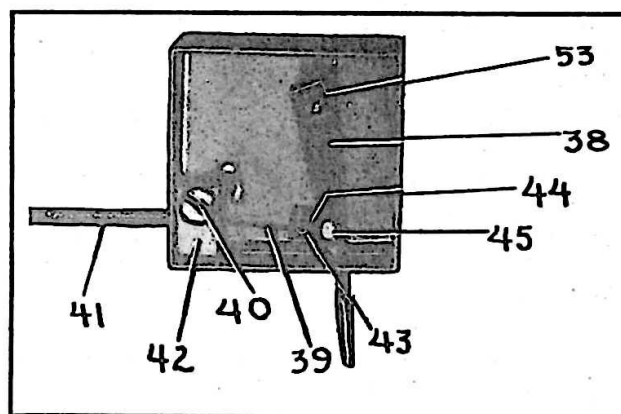

Figure 2-3. Control Box BC-327 (Remote) with Control Shaft MC-166-A Attached
c. Attach the control shaft to Control Box BC-327 as follows: (See fig. 2-3.) Mount Control Box BC-327 on the airplane structure at the position decided upon when determining the routing and length of the control shaft. Drill the mounting holes through the back of the case in such positions that the screw heads will not interfere with the operation of the lever or associated control shaft.
Remove the protective sleeve from the remote end of the control shaft, and clamp the remote end of the control-shaft casing 41 to Control Box BC-327 by means of the split-collar clamp 42 and the screw 40 illustrated in figure 2-3. Push the casing through the clamp 42 until it is flush with the inside surface of the clamp, and tighten the screw 40 until the casing is rigid. Fasten the casing to the airplane structure in any convenient manner at several points along its length, taking care not to bend or crimp the casing.
The appearance of the interior of Control Box BC-327 (Remote) after the control shaft has been attached and adjusted is shown in figure 2-3.